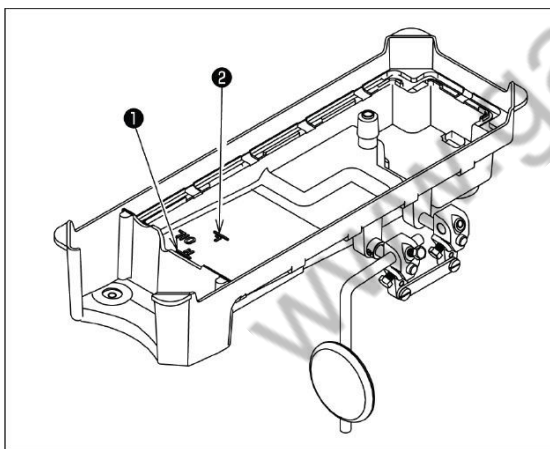

Fig.4
Fill the oil tank with oil up to line „H“ (1). Carry out periodical inspection while the sewing machine is in use to check the oil quantity. If the oil surface level is below line „L“ (2), add oil until the oil surface reaches line „H“ (2), see fig.4. Use „spindle oil“.